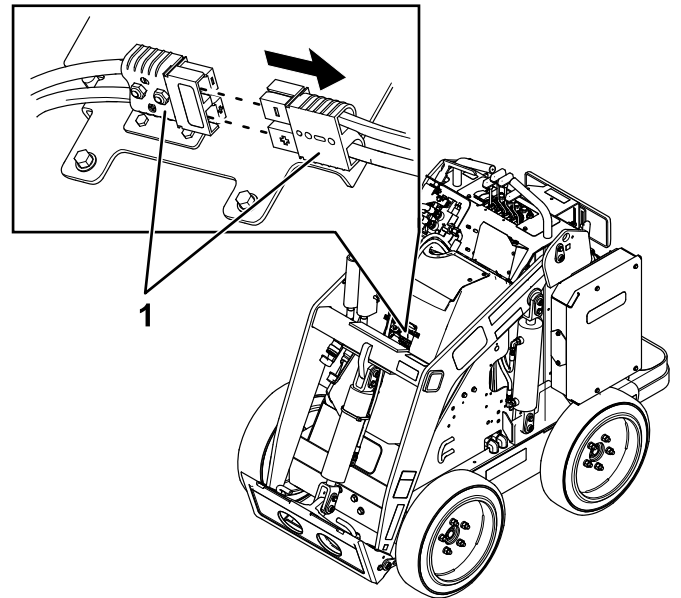

Figure 29
Before you service the machine, disconnect the machine from the power supply by separating the main-power connectors (Figure 29).
5. Separate the 2 power connectors (Figure 29).